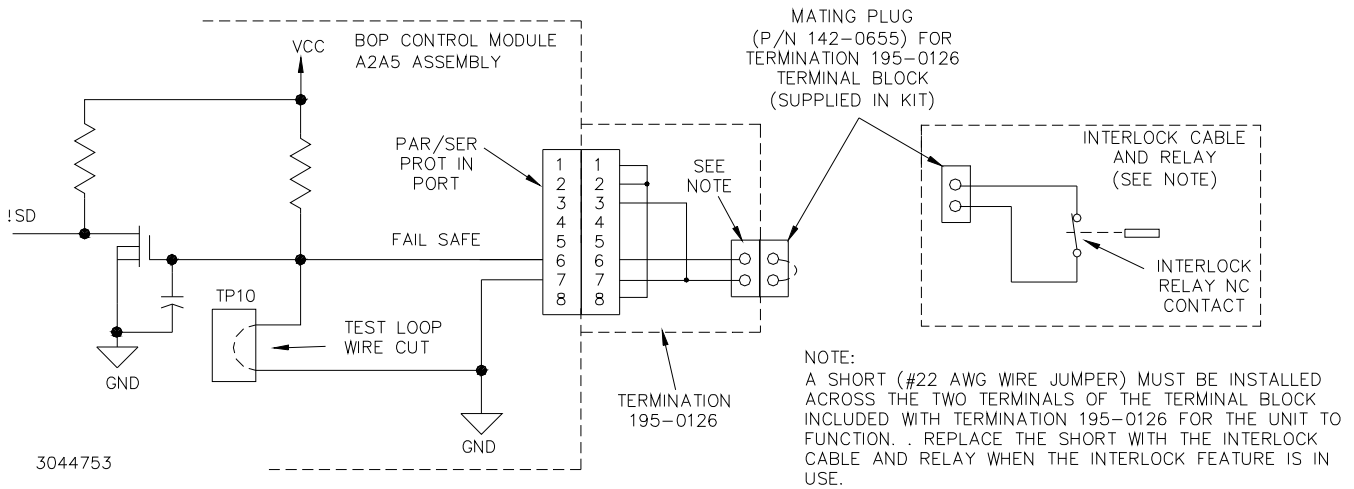

FIGURE 5. FAIL SAFE INTERLOCK FEATURE, SIMPLIFIED SCHEMATIC DIAGRAM
5. Refer to Figure 5 and proceed as follows:
- b. If the fail safe interlock feature is to be used, remove the short (if installed in step 5a above), then thread Fail safe and Ground (return) wires of the interlock cable and relay circuit (see Figure 5) through the rear panel assembly and attach to mating plug (P/N 142-0655) supplied in kit. Refer to PAR. 4 to enable the fail safe interlock feature. and to PAR. 5 for how to use it.
Once the feature is enabled, if the interlock feature is not used, a short is required across the terminals of the Termination 195-0126 terminal block for the unit to function (see simplified diagram, Figure 5).